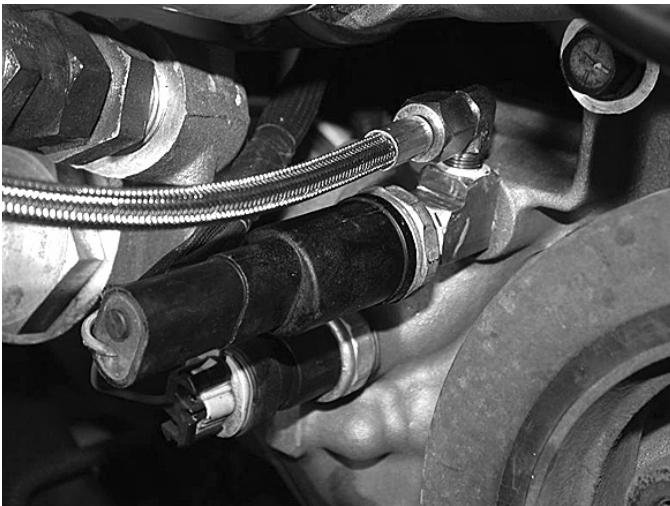

Fig. 2-a
- B. Install the 1/8"NPT TEE in the oil sender hole. Leave the TEE pointed up. Install the 1/8"NPT x -4 90° fitting in the top of the TEE. Install the oil pressure sender in the front hole in the TEE and re-attach the electrical plug. (See *Fig. 2-a.*)